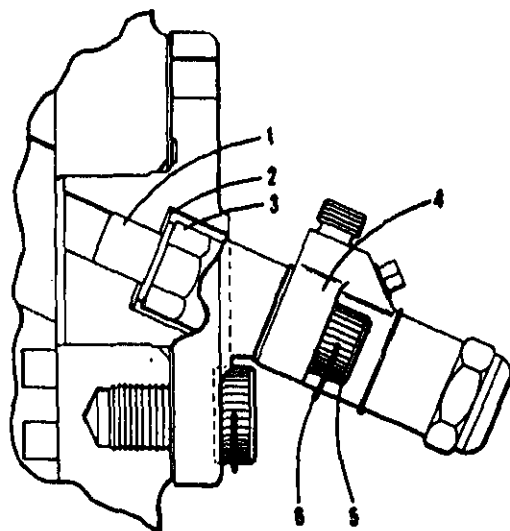

FIG. 11-12
- (d) Remove the socket head capscrews Fig. 11-12, and pull injector assembly from the Hammer. **BE CAREFUL NOT TO STRIKE THE END OF THE NOZZLE AGAINST ANY HARD SURFACE.**
- (b) Using a new spring washer, Fig. 11-12 install injector in Hammer. The washer should be placed on the nozzle convex side (curved side) toward the nozzle holder.